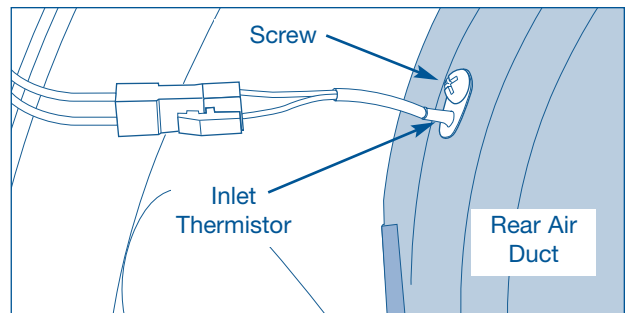

Figure 4-42.
2. From the rear of the unit, remove the inlet thermistor. (See Figure 4-42)